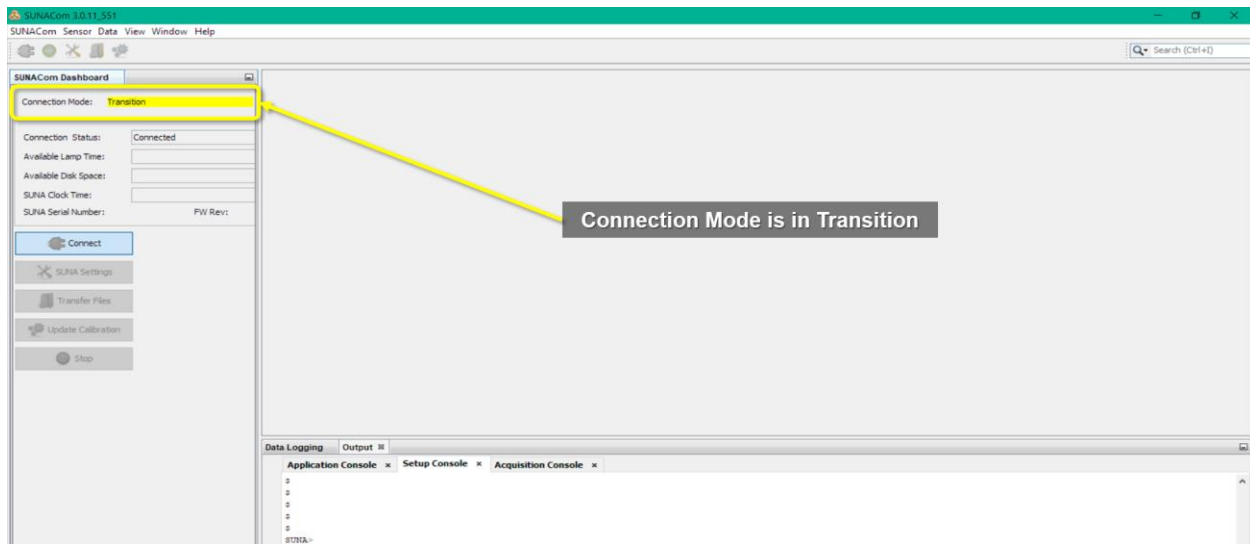

Figure 108. Connection to SUNA is in Transition
- The **Connection Mode** under the **SUNACom Dashboard** tab in the upper left hand corner of the window changes to yellow and the **"Setup Console"** tab starts displaying characters (see Figure 108).